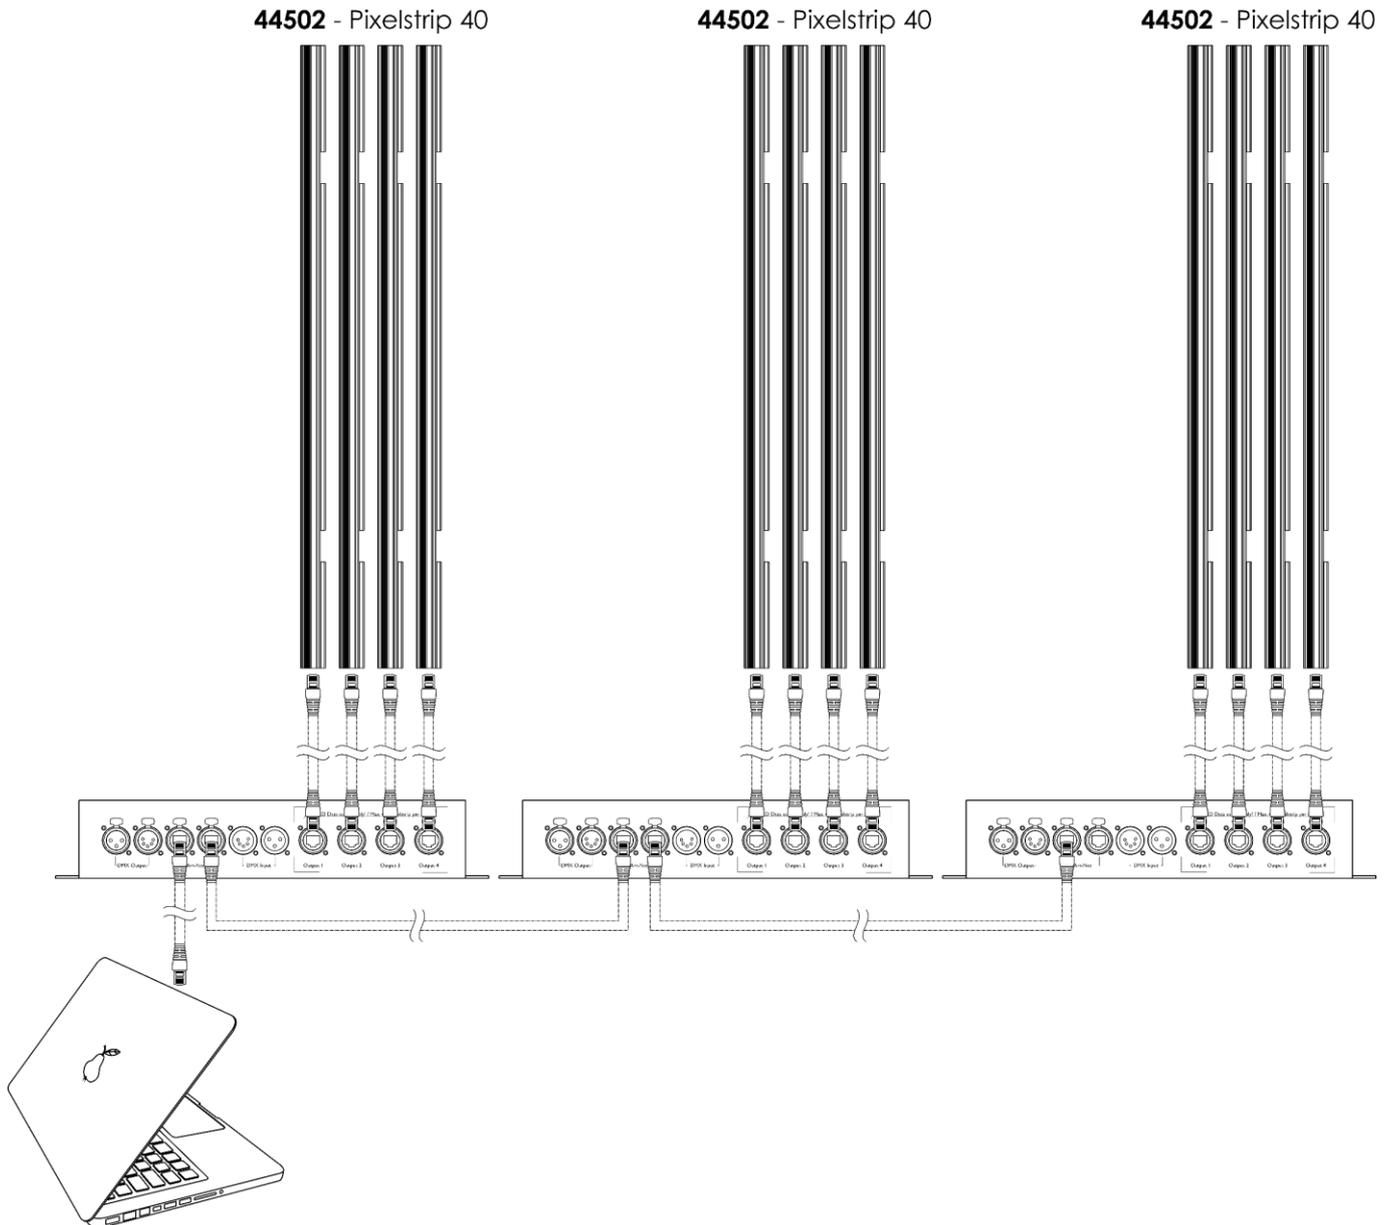

Fig. 07
- 05) Link the units as shown in Fig. 07. Connect the first unit's RJ45 "out" socket with the second unit's "in" socket, using a CAT-5/CAT-6 cable. Repeat this process to link the rest of the units.
- 03) Connect the Pixel Controller by means of a CAT-5/CAT-6 cable (see Fig. 07, page 12) to your computer. Once you have connected the devices, they will automatically be recognized by the software.